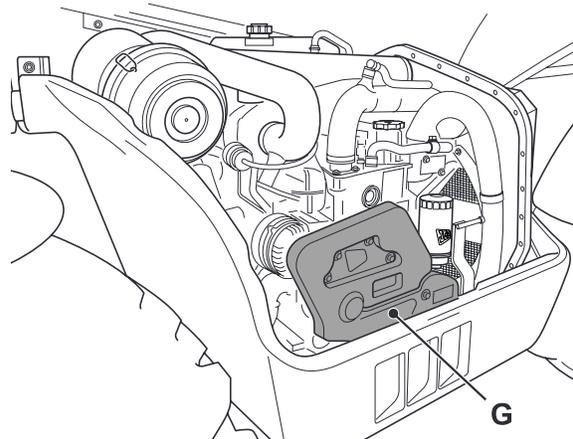

Fig 281.
- 2 Remove the drive belt guard **G**. → Fig 281. (□ 283).